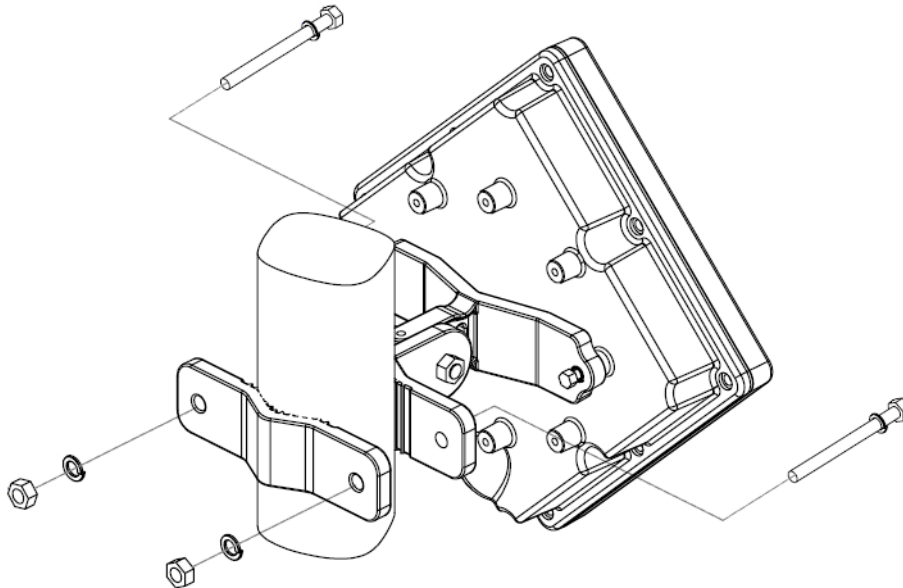

Figure 8: Attaching the ODU to a Pole
- 5 Attach the ODU to a 1"-4" pole. Attach the clamp (item 3) to the other side of the pole. Thread the M8*100mm bolts (item 11) through M8 spring washers (item 7) and through both clamp holes on either side, as shown in Figure 8. Tighten the bolts using the M8 nuts (item 10) and spring washers (item 7).